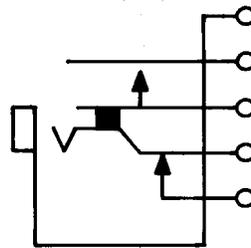

Fig. 12—234A or C Jack
2.12 234A and C: These single-mounted jacks (Fig. 12) are used with 1D, 1E, 153, 209, 241, 305, 327, 328, 347, 373, and 464 plugs. These are heavily insulated jacks. These jacks are mounted with the springs in a vertical plane. The contacts are normally closed and are not designed for use in talking circuits. The 234C jack replaces the 151 jack.